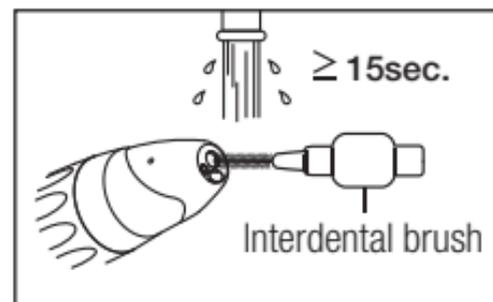

Fig. 14
- 2 Clean around the bur insertion hole for 15 seconds or more, using an interdental brush (wire thickness 0.7mm) that conforms to size 4 in ISO 16409. (Fig. 14)